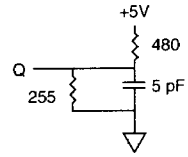

Fig. 2 OUTPUT LOAD EQUIVALENT
- ^tHZCE, ^tHZOE and ^tHZWE are specified with CL = 5pF as in Fig. 2. Transition is measured ±500mV from steady state voltage.